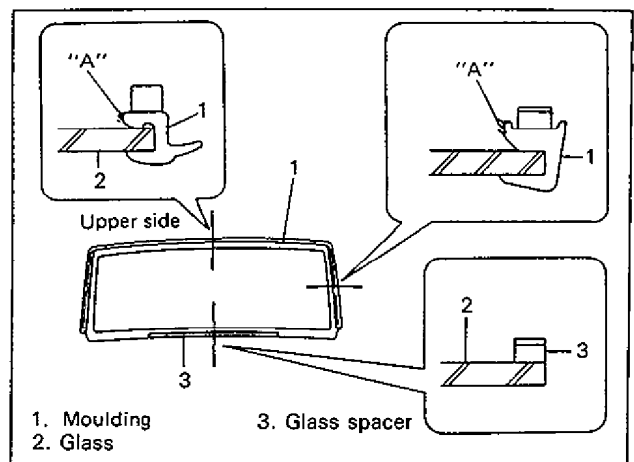

Fig. 9-49
10) Using new brush, apply sufficient amount of primer for moulding (Urethane) to surface "A" as shown in Fig. 9-49.